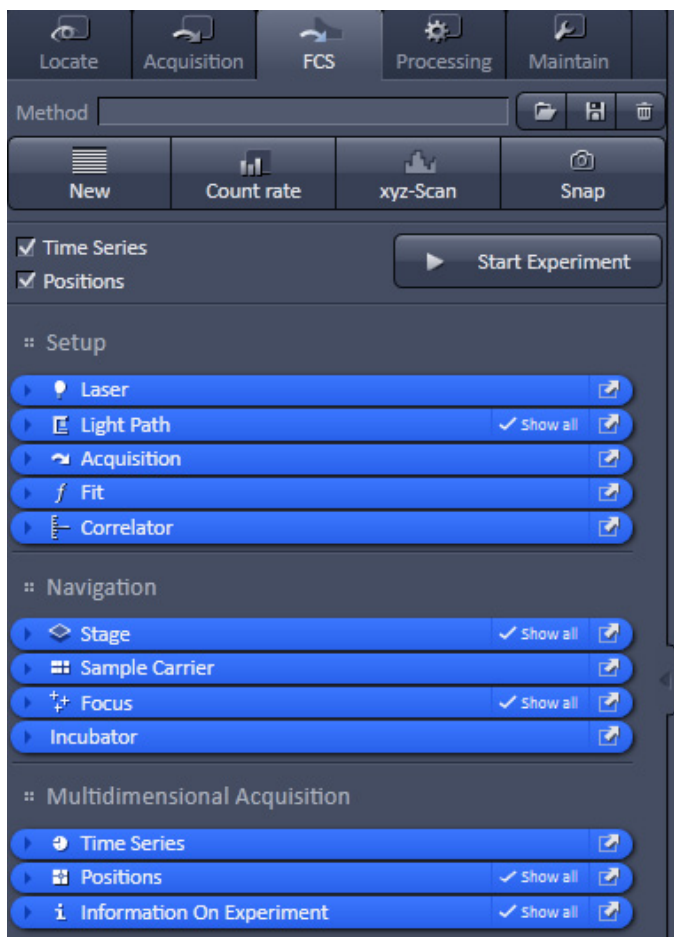

**Fig. 257** Airyscan View: Fine tuning the detection
**Raw data sum image, Range Indicator (Fig. 257)**